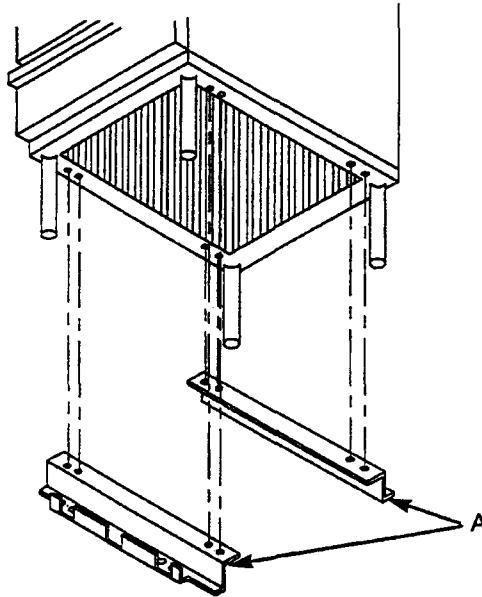

FIGURE 13
2. Attach frame hanger (1175296) (Item "A") to underside of oven. Be sure the flanged side of the rack hanger faces the front of the unit. Refer to figure 13.
3. Attach frame hanger (117296) (Item "A"), to underside of oven. The rear frame hanger should be mounted so that the flanged side of the rack hanger faces the rear of the unit. Refer to figure 13.